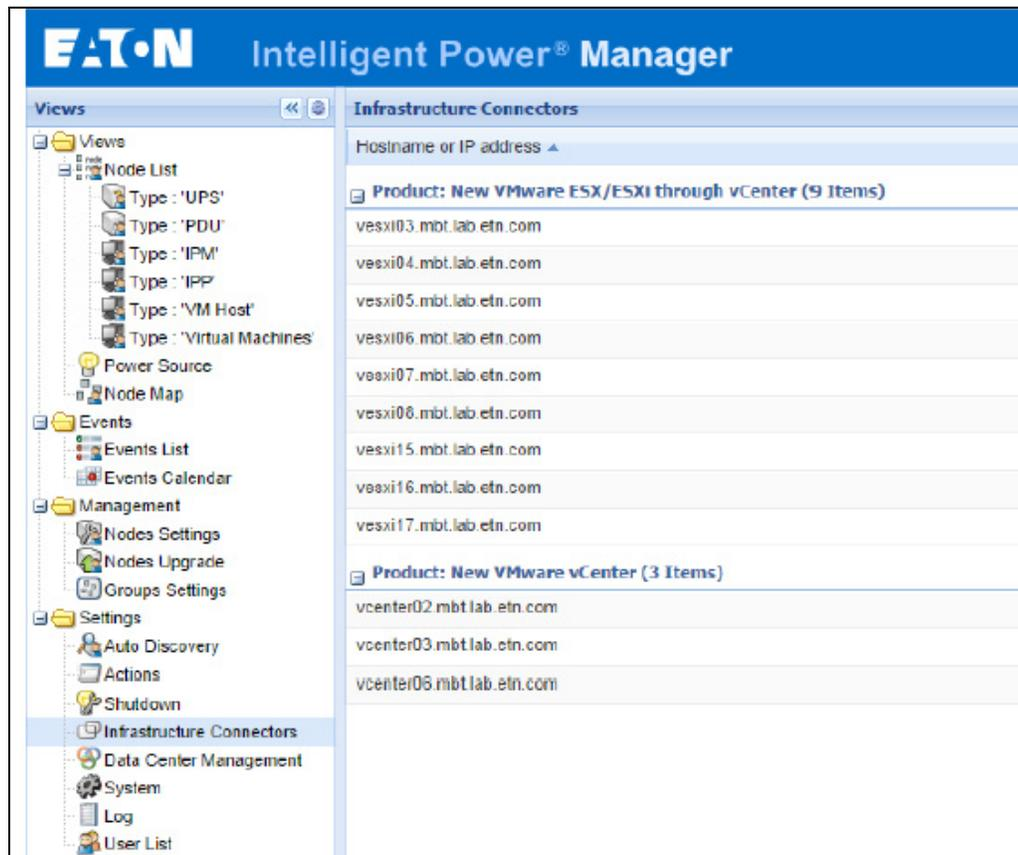

Figure 189. Infrastructure Connectors
4. Select **Settings > Infrastructure Connectors** (see Figure 189).